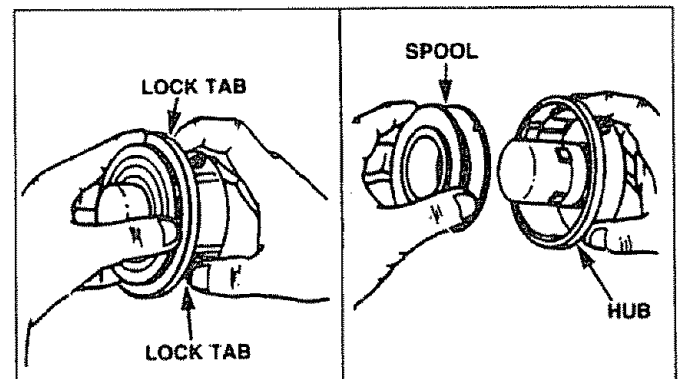

Figure 25
## INSTALLING PRE-WOUND SPOOL (Fig. 25, 26, 27, 28, 29 & 30)
- Hold the semi-automatic head as shown. Press the two lock tabs and remove cover. Figure 25